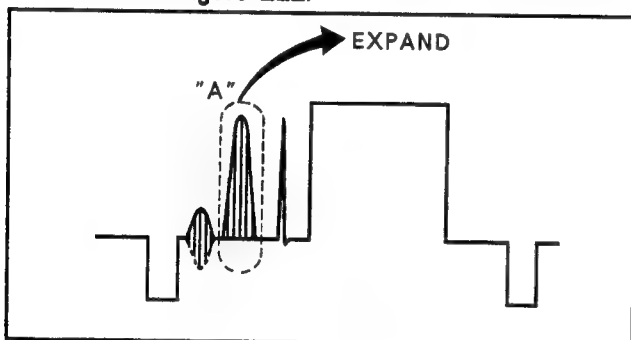

Figure E21
3. Connect the waveform monitor to video output and expand the "A" portion as shown in Figure E21.